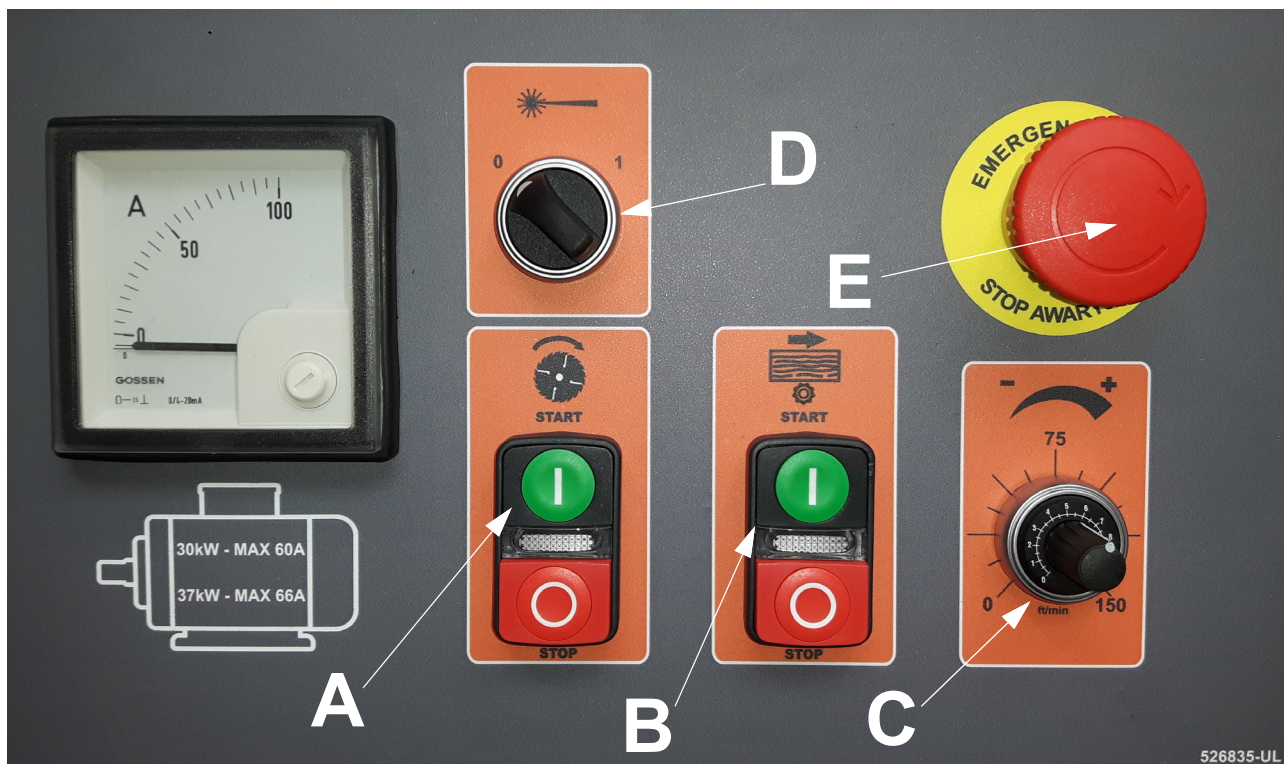

FIG. 5-11 SWITCHES ON THE CONTROL PANEL
See Figure 5-11 The control panel includes: blade motor start-stop switch (A), power feed switch (B), feed rate knob (C), laser switch (D) and emergency stop button (E)